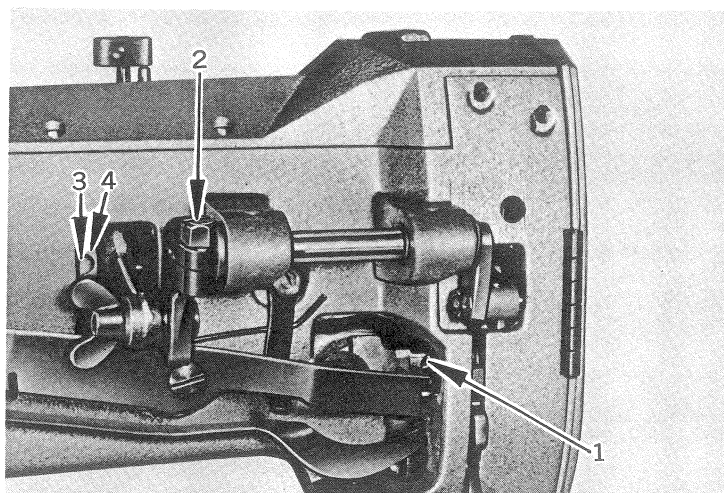

Fig. 22
2. Loosen the hexagon screw (2, Fig. 22) and move the presser foot up or down as may be required.
2. Loosen the two screws (3, Fig. 22) and adjust the rotating position of the cam (4, Fig. 22) faster or slower as may be desired.